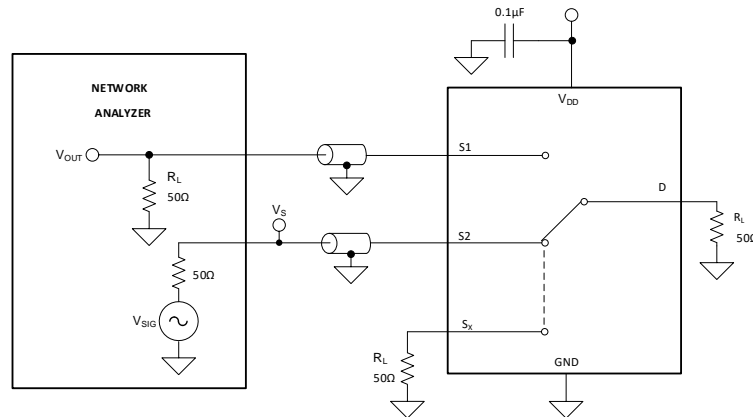

图 15. Channel-to-Channel Crosstalk Measurement Setup
Crosstalk is defined as the ratio of the signal at the drain pin (D) of a different channel, when a signal is applied at the source pin (Sx) of an on-channel. 图 15 shows the setup used to measure, and the equation used to compute crosstalk.